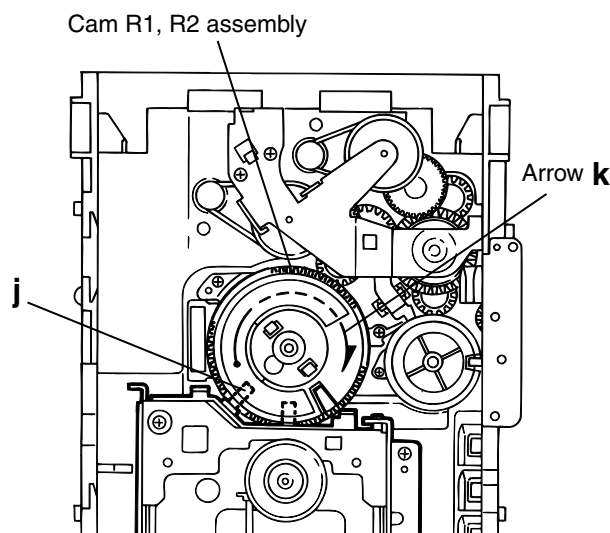

Fig.11
■ Removing the CD traverse mechanism (See Fig.11 and 12)
1. For dismounting only the CD traverse mechanism without removing the CD loading mechanism assembly, align the shaft "j" of the CD loading mechanism assembly to the position shown Fig.11 while turning the cam R1 and R2 assembly in the arrow direction "k".